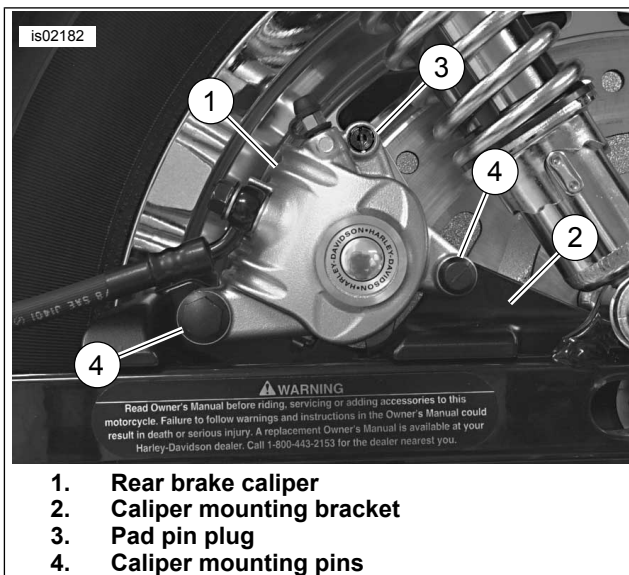

Figure 5. Rear Caliper Assembly
3. See Figure 5. Remove pad pin plug (3).
12. See Figure 5. Install pad pin plug (3). Tighten to 18-25 in-lbs (2.0-2.9 Nm).